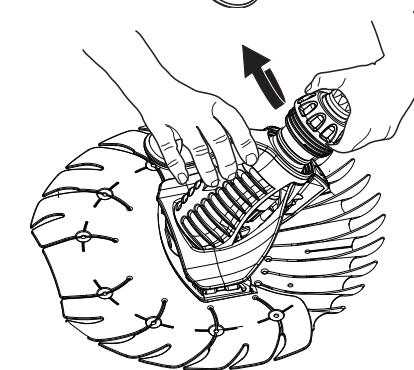

Figure 2
- Unthread the handnut (see Figure 2).